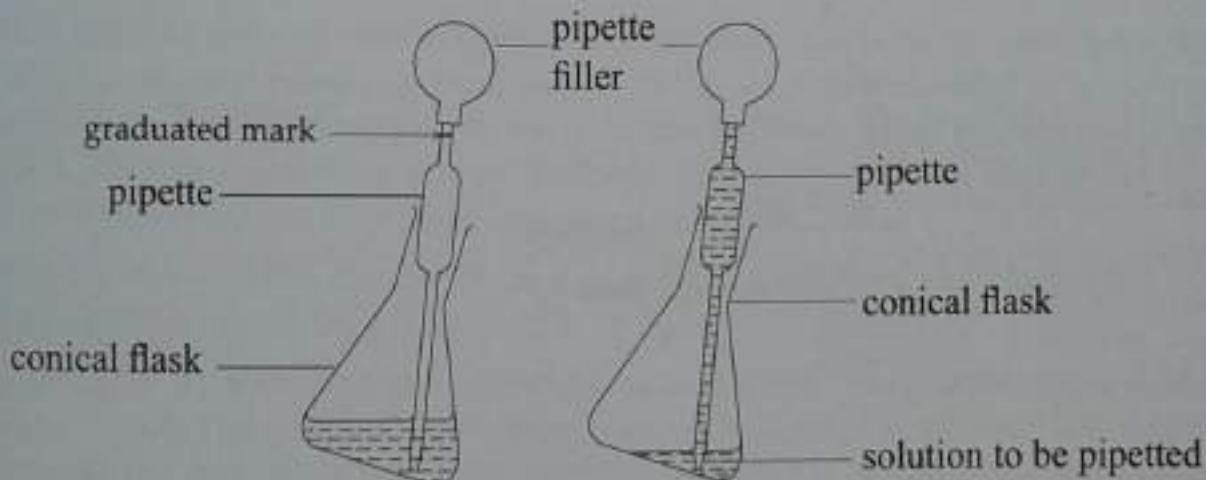

Fig. 4.3: Correct method of filling a pipette with a filler
- Suck the solution up the pipette well above the calibration mark. It is recommended to suck the solution from a tilted conical flask to avoid air bubbles entering into the pipette as shown in Fig. 4.3. Use a pipette filler to fill the pipette.